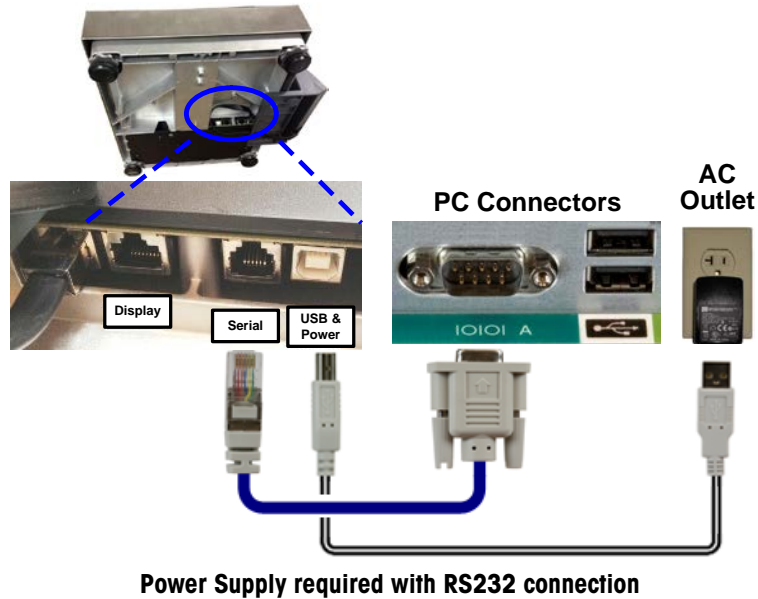

Figure 5-2: Serial Connections
1. Connect the scale to the PC as shown in Figure 5-2. Note the COM port on the PC that the scale is connected to; this information will be needed in step 5